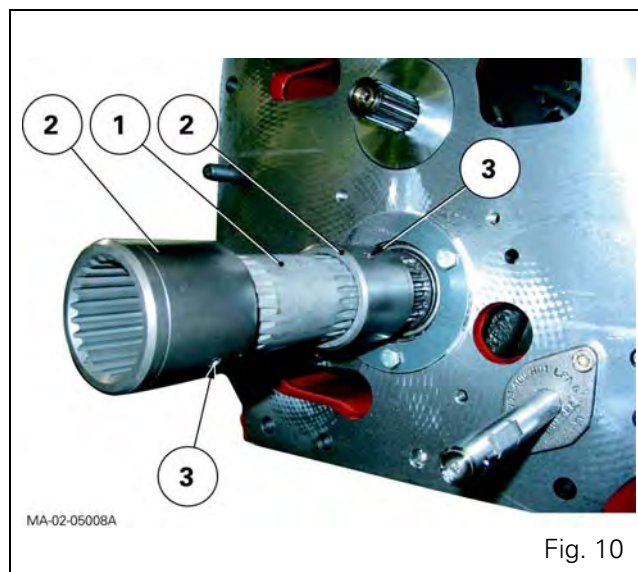

Fig. 10
- **Gearbox without creeper or super creeper unit (Fig. 10)**